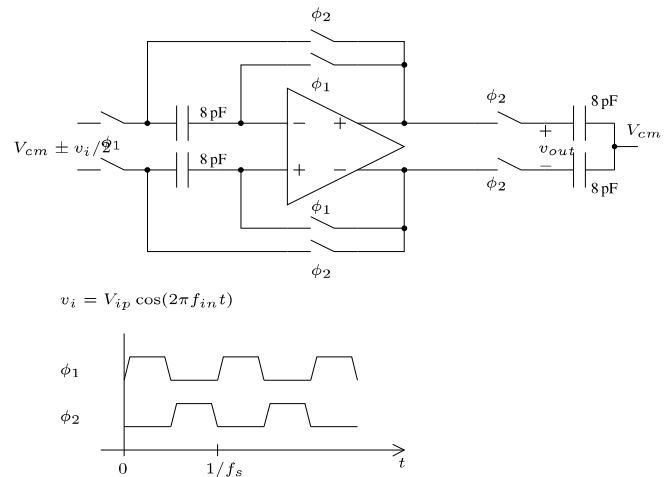

Figure 3: Sample and hold circuit
- Sample and hold:** Design the sample and hold circuit in Fig. 3 using the fully differential folded cascode opamp designed above. Use ideal switches with 1 $k\Omega$ on resistance. Use $f_s = 4$ MHz and $f_{in} =$